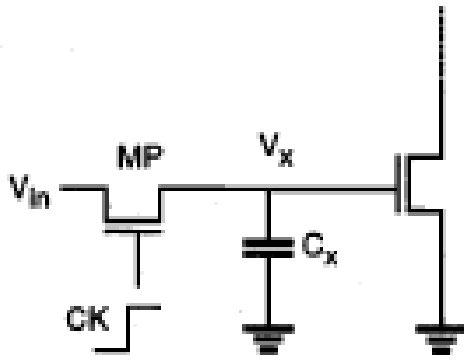

Fig.1: Basic building block of nMOS dynamic logic
- The fundamental building block of nMOS dynamic logic circuits, consisting of an nMOS pass transistor driving the gate of another nMOS transistor, is shown in Fig. 1.